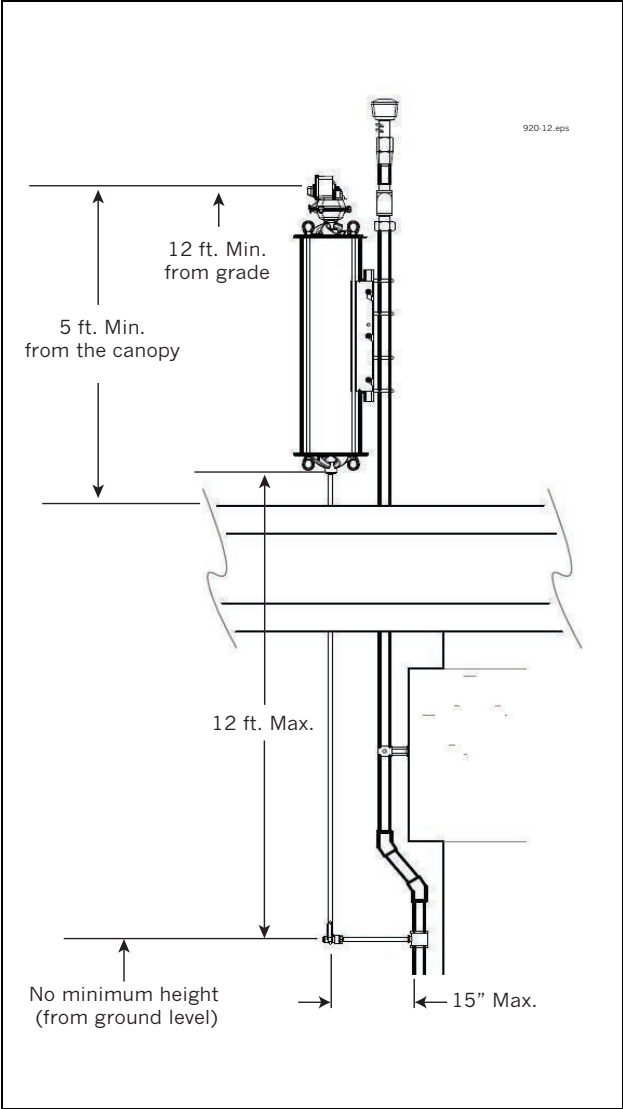
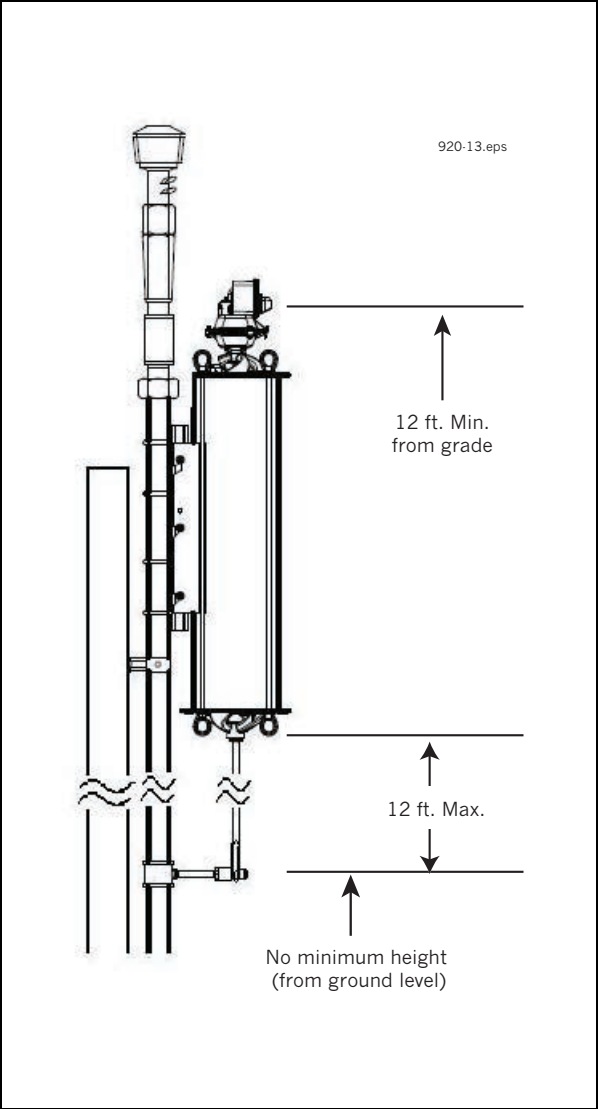

Figure 9. Through Canopy W/extended Plumbing
Figure 10. Vent Stack Mounting
6. Follow the standard installation procedures when installing vapor polishers in configurations similar those in Figure 9 and Figure 10. All installations of this type must comply with NFPA 30/30A and NFPA 70 and are subject to the approval of the local authority having jurisdiction.